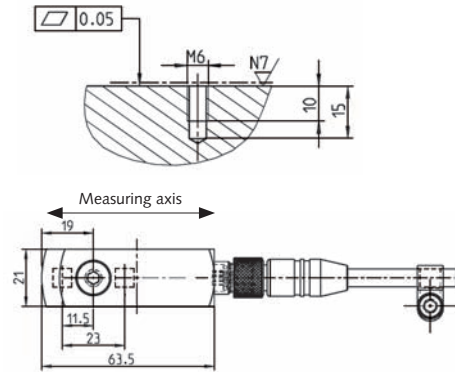

Fig. 3: Preparing the clamping surface
- Machining the surface at the measuring point and tapping the M6 thread (see Fig. 3).